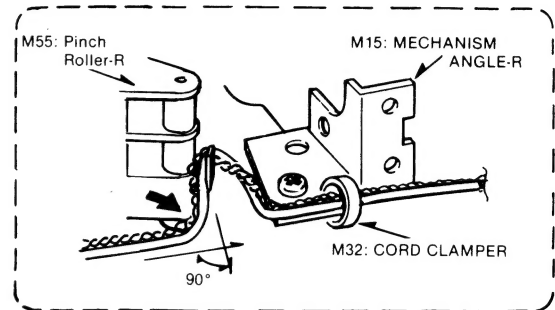

Fig. 2
3. Trace the record/playback head lead-wire as follows (Refer to Fig. 2):
- At this time, hook the head wire to the clasper of the pinch roller R, and press the head wire in the direction of the arrow as shown in Fig. 2 so that it is bent approximately 90 degrees. Then secure the wire on the mechanism unit using a cord clasper.